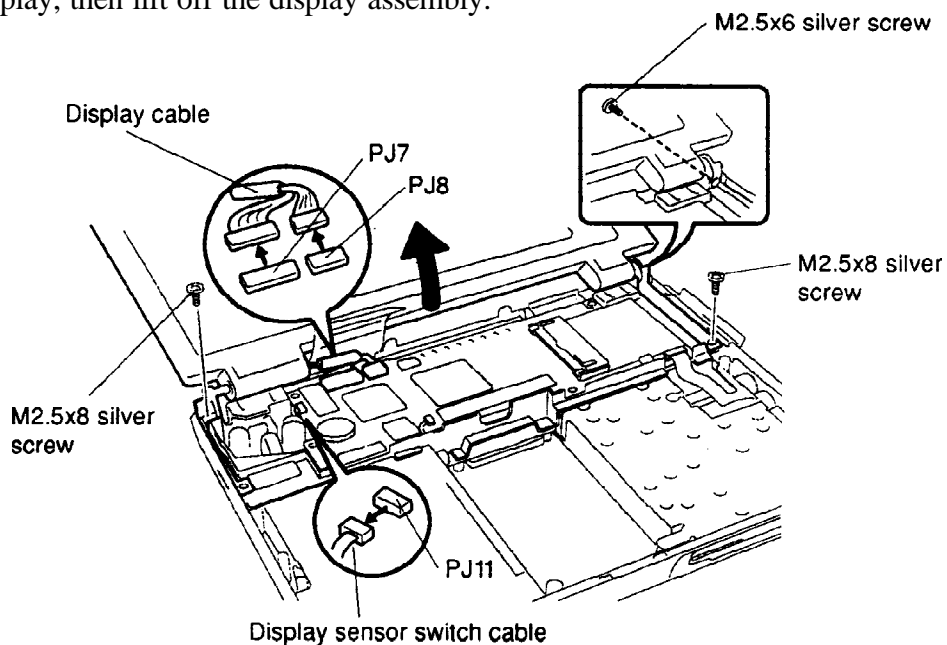

Figure 4-17 Removing the Display Assembly
6. Disconnect the **two display cables** from **PJ7** and **PJ8** on the system board (Figure 4-17).
1. Place the **display assembly** on the computer aligning the brackets with the screw holes on the middle-frame assembly. Be sure to route the clear **plastic insulator** between the display assembly and the bottom chassis (Figure 4-17).
3. Connect the **display sensor switch cable** to **PJ11** on the system board (Figure 4-17).
4. Connect the **two display cables** to **PJ7** and **PJ8** on the system board (Figure 4-17).
5. Secure the **M2.5x6 silver screw** on the back of the computer (Figure 4-17).